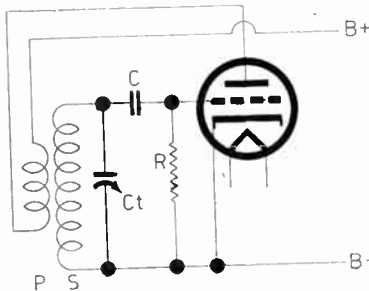
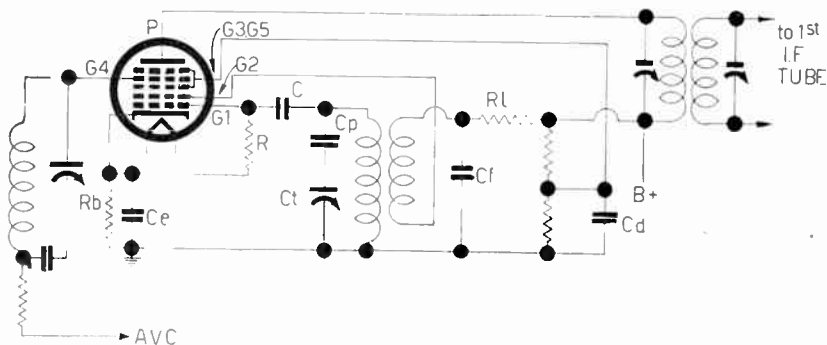

FIG. 1
FIG. 3
*When line voltage was 117.5 volts a.c., and only secondary loads were the 100-ohm potentiometer, with an a-c moving-iron meter of 200 ohms per volt between posts 1 and 2 of Fig. 1.
The bias considerations have been discussed in detail in previous articles and need be mentioned here only briefly. The oscillation wave drives the grid positive, and in the condenser-diode circuit (Fig. 1), consisting of grid-to-cathode, grid current develops a polarity opposite to that of the a.c. That is, the grid becomes negative. Therefore at the peak, and only at the positive peak at that, does the grid draw current from the oscillator circuit, or the tube rectify in the grid circuit. Thereafter the grid is maintained negative because the fixed condenser, which has been charged to practically the peak oscillation voltage, discharges through the leak for the remainder of the cycle, even though during the negative alternation there may be no oscillation.
Another connection for R and C that works well, but does not act as sensitively as Fig. 1.
Figs. 1 and 2 represent the two types of grid leak-condenser circuits discussed, while Fig. 3 is the diagram of a mixer, complete except for the connection of the rotor (frame) of the tuning condenser in the r-f section. However, as a gang condenser is used, grounding of the frame at the oscillator is grounding of the frame for all purposes, and affects the two or three gangs alike, so there is really no omission.
The location of the padding condenser as shown in Fig. 3 is the better choice for maximum oscillation voltage, as there is no sacrifice of any of this voltage by the method shown, where C_p is between stator of the oscillator tuning condenser and grid end of secondary.
CONSTANTS FOR FIG. 3
If a single band is to be covered, say the standard broadcast band, then C_p would be left where it is in Fig. 3. However, it is usual to have more than one band, in fact, three bands, and that requires three different padding condensers, one for each band, because as the station-carrier frequencies become higher and higher for the two extra bands, the amount of padding capacity required becomes greater and greater, since the difference between the two frequencies, station-carrier and local oscillator, becomes smaller. But it is, or should be, always the same difference.
In Fig. 3 the constants are identified as follows, with suggested values for them:
It can be realized that if padding condensers have to be changed for each band, and the condensers are as located as shown in Fig. 3, a switch circuit has to be devoted to the padding condensers.